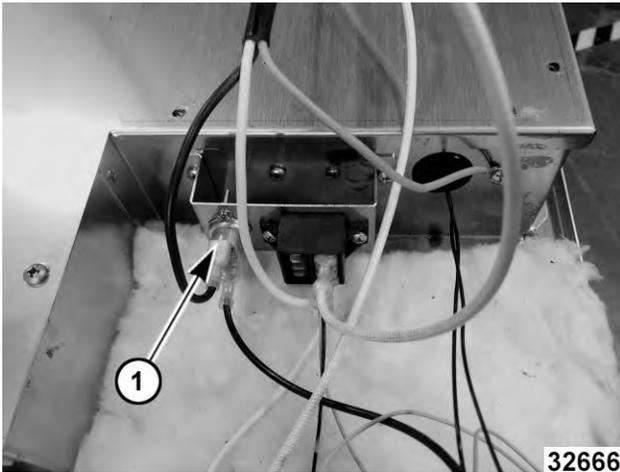

Fig. 15
3. Remove mounting screws for high limit switch (1, Fig. 15).